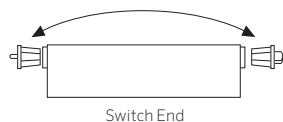

Fig 4
- e. Pull out both end plugs from the tube and switch them (Fig 4).